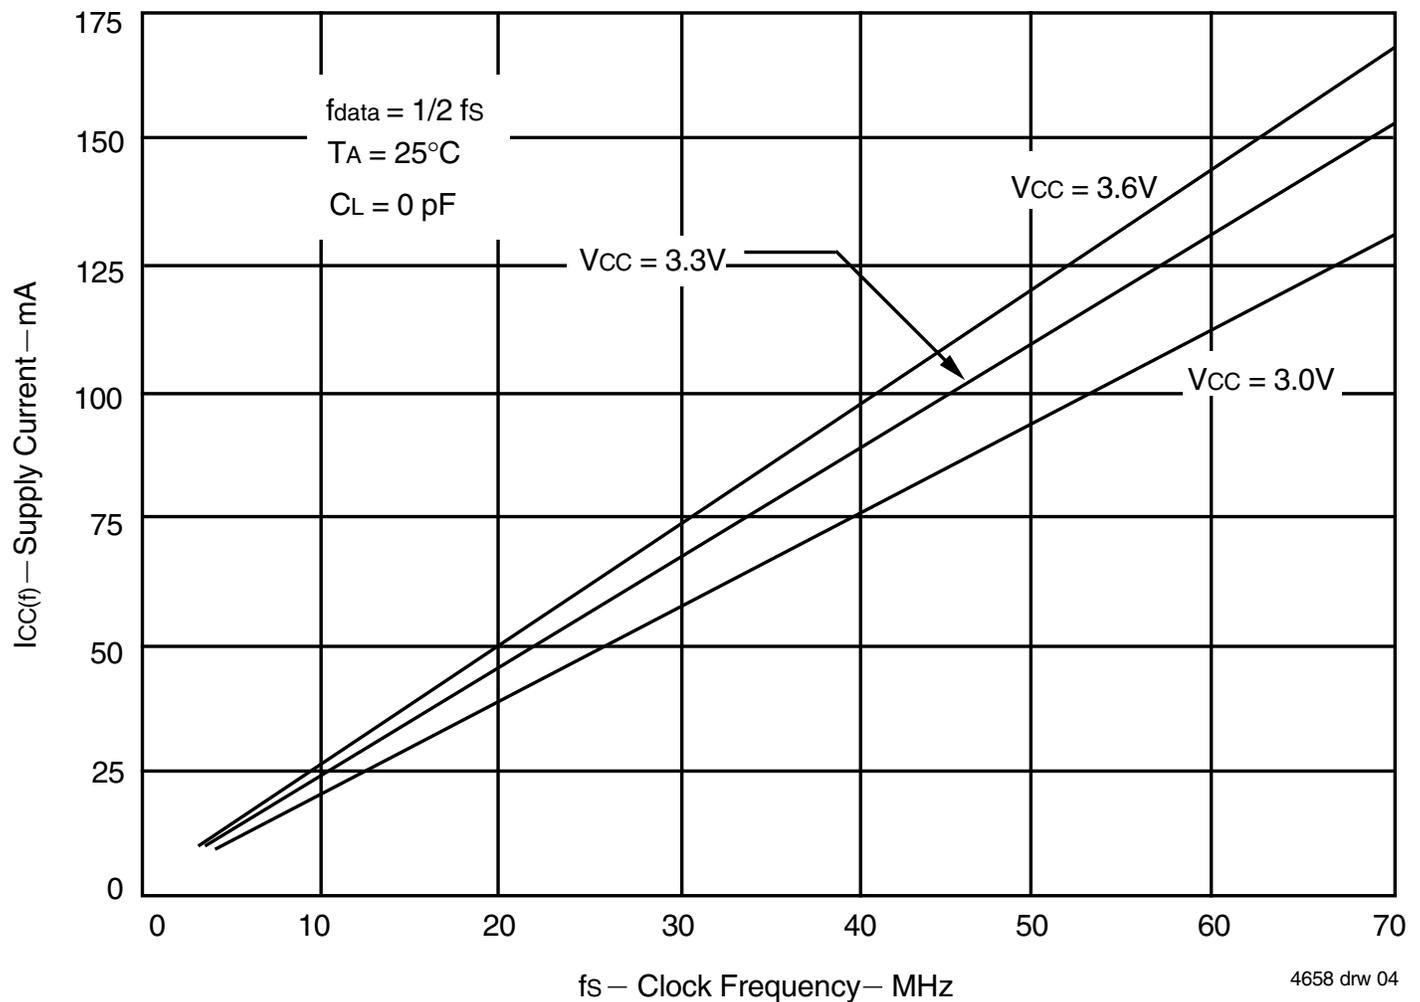

Figure 1. Typical Characteristics: Supply Current (Icc) vs. Clock Frequency (fs)
- For additional ICC information, see Figure 1, *Typical Characteristics: Supply Current (ICC) vs. Clock Frequency (fs)*.
The  $I_{CC}(f)$  current for the graph in Figure 1 was taken while simultaneously reading and writing the FIFO on the 72V3641 with CLKA and CLKB set to  $f_s$ . All data inputs and data outputs change state during each clock cycle to consume the highest supply current. Data outputs were disconnected to normalize the graph to a zero-capacitance load. Once the capacitance load per data-output channel and the number of 72V3631/72V3641 inputs driven by TTL HIGH levels are known, the power dissipation can be calculated with the equation below.
With  $I_{CC}(f)$  taken from Figure 1, the maximum power dissipation (PT) of these FIFOs may be calculated by: